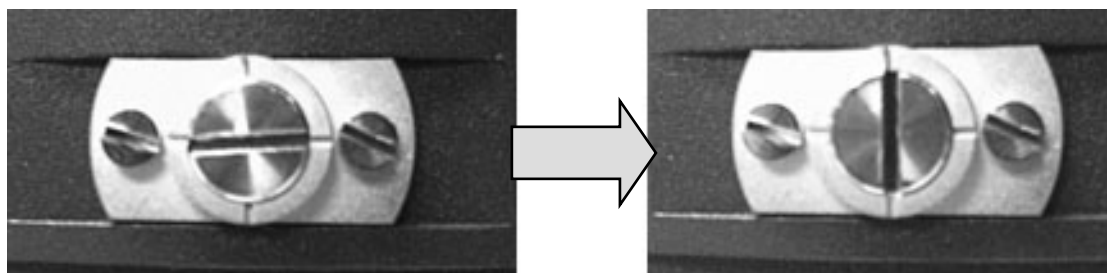

Figure 7 Locking the Mass
- (1) Disconnect: Separate the cable from BBVS-60.
- (2) Lock the mass: Turn 3 Locking/unlocking Screws clockwise or counter-clockwise 90 degrees with a flat-head screwdriver to make all 3 “—” slots vertical, shown as Figure 7. Make sure that all 3 masses are fixed.